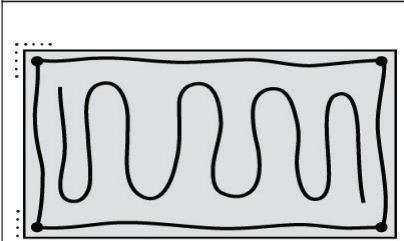

Fig. 2
4. Apply a bead of sealant supplied by **TufTile** to the concrete completely around the perimeter about 1/2" in from the edge and zigzag in the center area of the tile. **(Figure 2)**